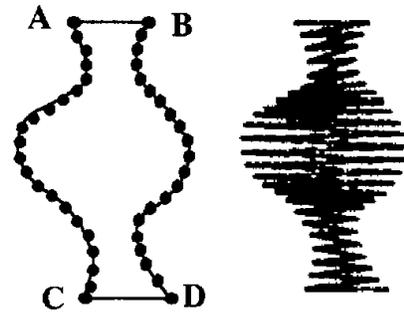

Figure 3-32
Another type of curve smoothing column digitizing is to define a side or sides using multiple Mk4s. The sample in Figure 3-32 illustrates this technique.
1. Refer to the Figure 3-32 and enter a Mk1 at point A and a Mk2 at point B to initiate the column.
The result of the above digitizing should yield a design similar to the one on the left in Figure 3-32.